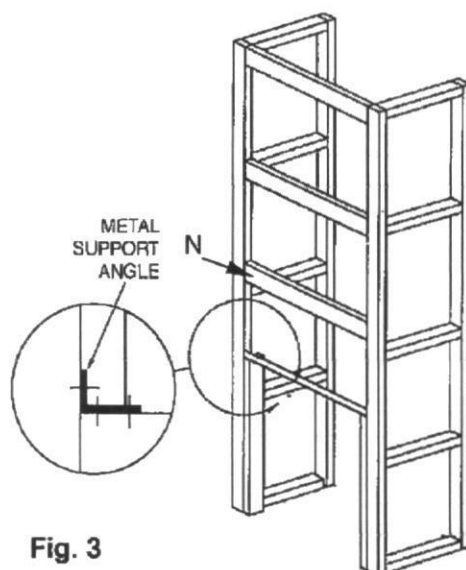

Fig. 3
4. Frame up the enclosure using nominal 90 by 45 dressed timber, verifying that it will be on the flue centreline. (See Fig. 3). The overall depth of the frame should be  $(587 - t)$  mm, where 't' is the cladding thickness. The distance between the trimmers (where the assembled shielding box will fit), should be 737mm. The overall width of the enclosure frame shown is the minimum required, but if desired it may be larger. The trimmers do not run the full height, but end 719 mm above the finished top face of the floor
protector (or 719 mm above the top of the bearers if the heater is 'elevated'). Refer to paragraph 6 for floor protector thickness options and the advantage of 'elevated' installations. Fix the metal support angle across the tops of the trimmers to provide support and fixing for the front heat resistant cladding. (See Fig. 3).